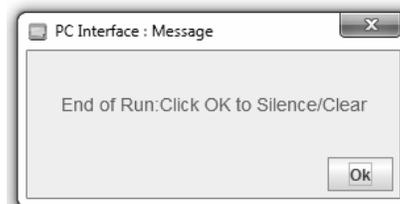

Figure 10-47. Completed
5. After the profile run is complete, the profile Run Completed window will appear as shown in Figure 10-47. Press Ok in pop-up window.